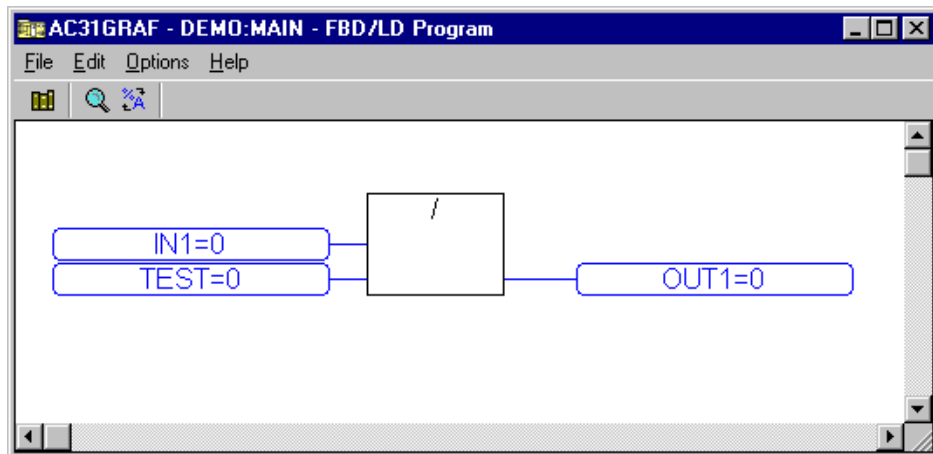

Figure 2-19 : Test window of the program on-line
- ⇒ The output status can be visualized on the PLC as well as from the software, as shown in Figure 2-19.